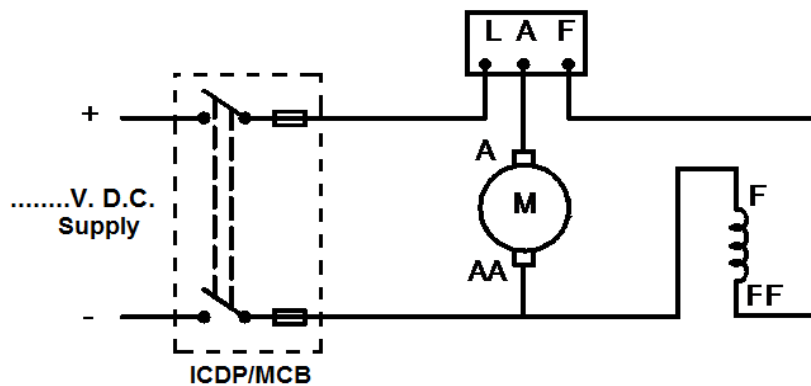

Fig.2 (Reversed Rotation by Reversing Field Current)
6. Reverse the connection of the field winding as shown in Fig.2 and again start the motor and observe the direction of rotation.
2.	As per fig.2